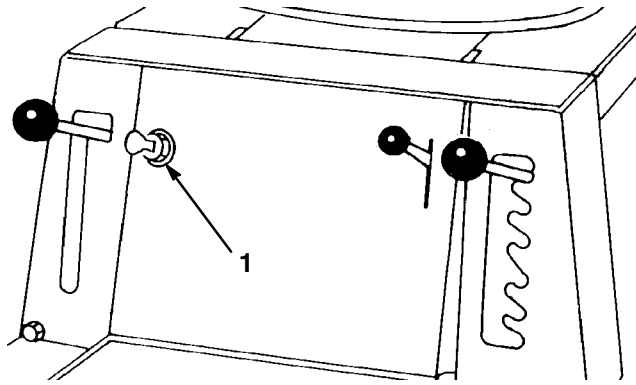

Figure 11
If you need to use the PTO while backing up, you can turn off this interlock feature using the KeyChoice switch located near the seat bracket (Fig. 11).
2. Insert the KeyChoice key into the switch (Fig. 11).